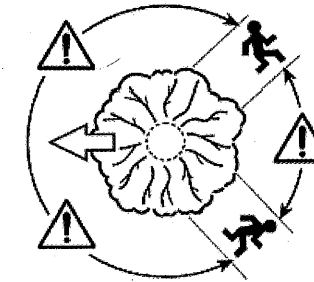

Fig. 33
3. An escape path should be planned and cleared as necessary before cuts are started. The escape path should extend back and diagonally to the rear of the expected line of fall (Fig. 33).